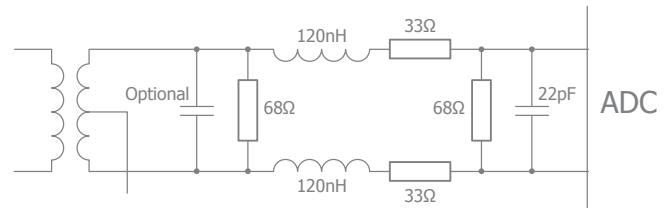

Figure 2: Alternative Input Network
- The input network can be optimized if a long cable is required between the filter and the board input. The configuration in Figure 2 is designed to attenuate the kickback from the ADC and to provide an input impedance that looks as resistive as possible for frequencies below Nyquist. Values of the series inductor will however depend on board design and conversion rate. In some instances a shunt capacitor in parallel with the termination resistor (e.g. 33pF) may improve results.